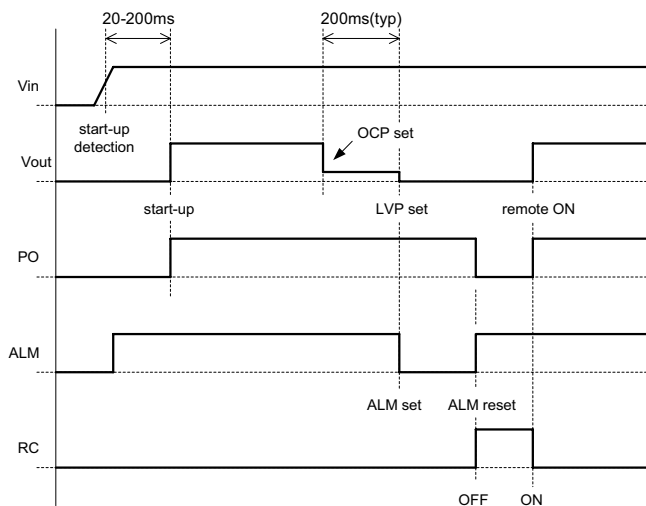

Fig.4.4 Sequence time chart
■The sequence time chart of Vin, Vout, PO, ALM and RC pins is shown in Fig.4.4.